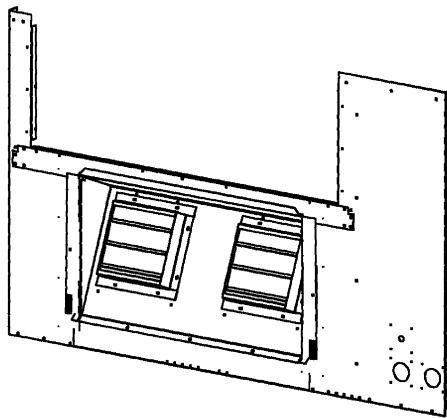

Fig. 6 — Power Exhaust/Relief Damper Assembly
7. Fold power exhaust/damper assembly back into the unit as shown in Fig. 6.
4. Fold barometric relief assembly back into the unit. See Fig. 6.